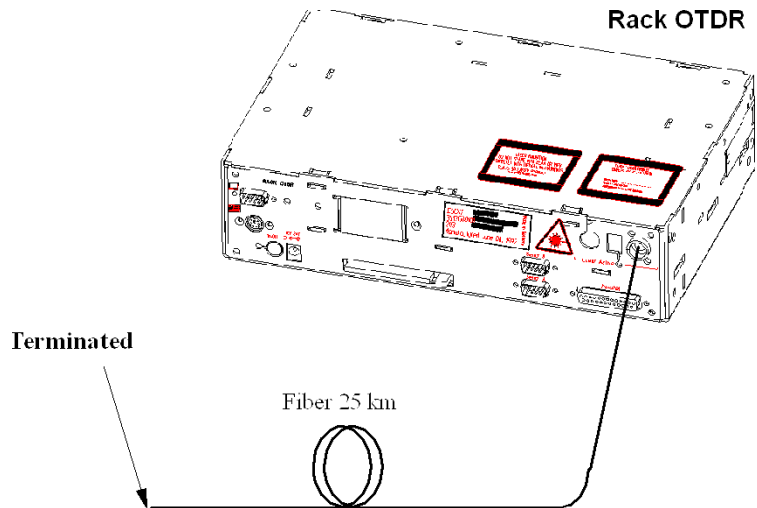

Figure D-1
- 1 Connect the equipment as shown in Figure D-1. Terminate the far end.